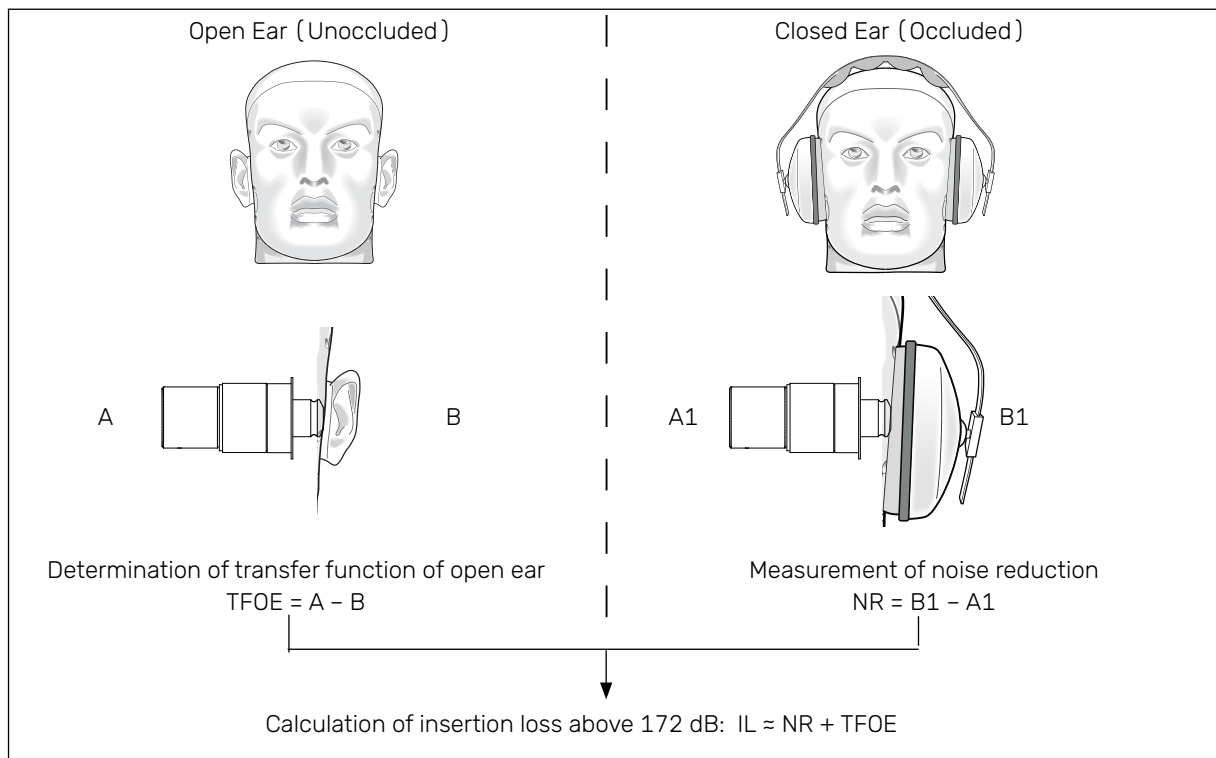

Fig. 14. Calculating the insertion loss of a hearing protector at levels above 172 dB.
The TFOE must be measured at levels below the upper dynamic limit of the microphone. A number of impulse and continuous noise measurements are recommended. See the left half of Fig. 14.
2. Measurement of the noise reduction of the hearing protectors above 172 dB. With hearing protectors mounted on the 45CB, measurement of the noise reduction at levels up to approximately 190 dB can be performed. The presence of hearing protectors over the ear simulators will reduce the SPL picked up by the microphones to a level below the peak capacity of the microphone. See the right half of Fig. 14.
Caution: Note that the calibration data of the Ear Simulators is not sufficient for this purpose. Measurement of the TFOE of your specific 45CB (= the completed assembly of ear simulator, ear canal extension, and pinnae) is required (see left part of Fig. 14).